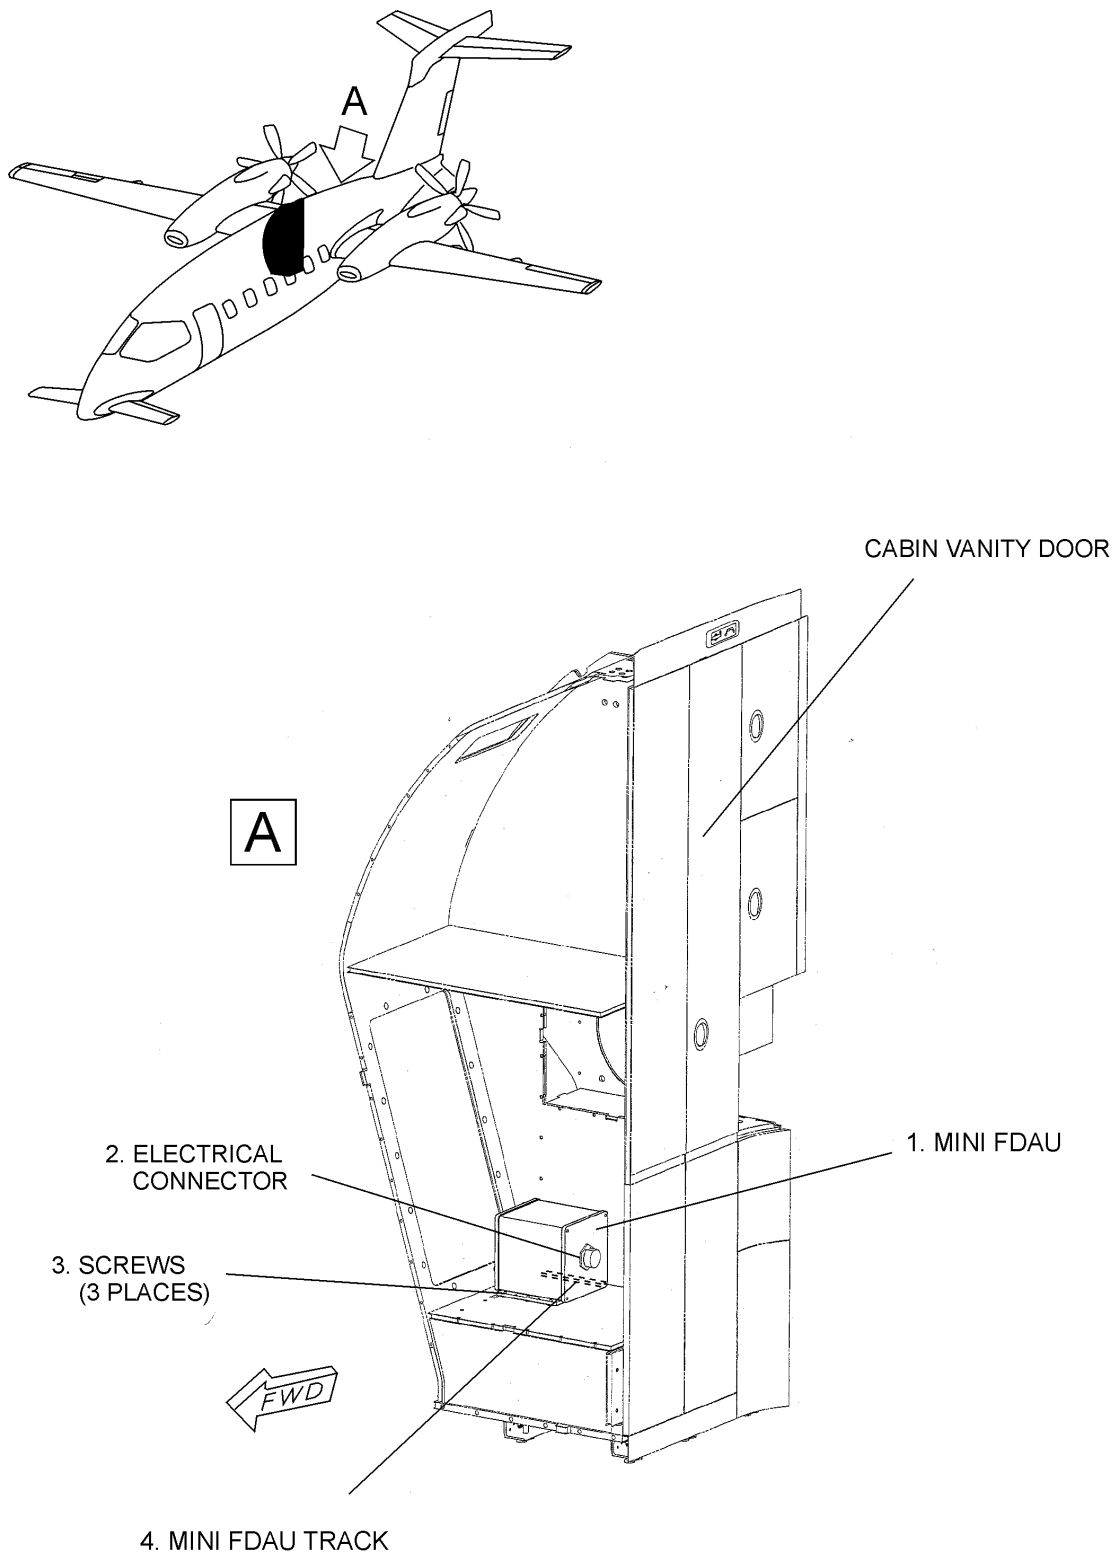

Fig. 203 - Flight Data Acquisition Unit (FDAU) (Nordam Interior) - Removal / Installation
9. CVDR Flight Data Acquisition Unit (FDAU) (Nordam Interior) - Removal (Refer to Fig 203)
10. CVDR Flight Data Acquisition Unit (FDAU) (Nordam Interior) - Installation (Refer to Fig 203)